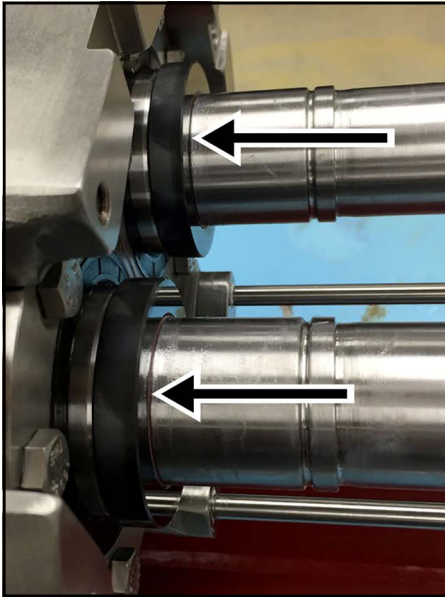

Figure 139 - Seal seats installed
4. (Double seal only) Make sure the seal seat is seated against the flats on the shaft, locking the seal seat against the base of the shaft. The arrows in Figure 139 show the seal seat location.